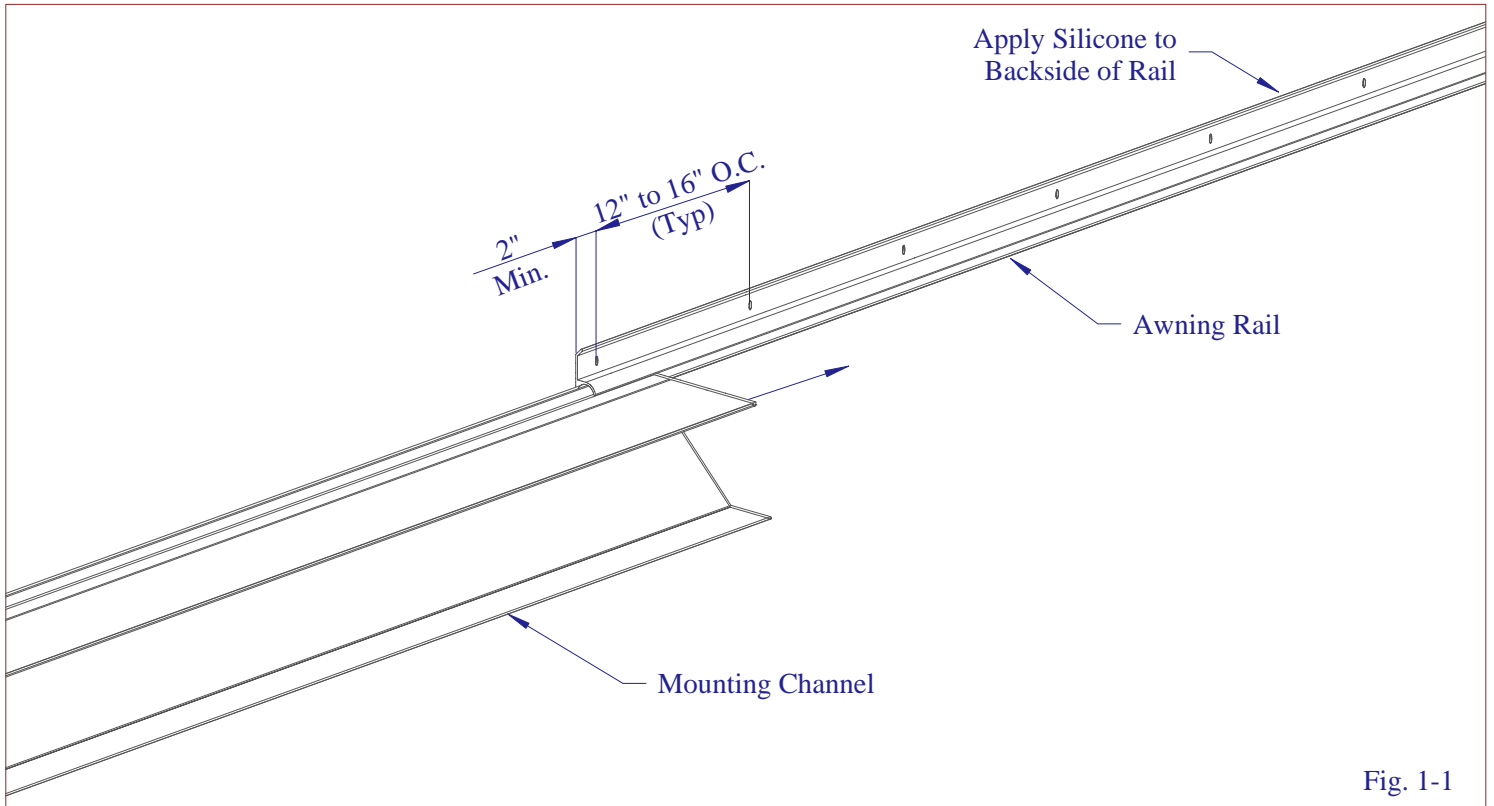

Fig. 1-1
- Drill 1/4" dia. holes beginning 2" from either end at 12" to 16" on center in awning rail as shown (see Fig. 1-1).
- Slide awning rail onto wall channel and apply a generous bead of silicone to backside of awning rail (see Fig 1-1).